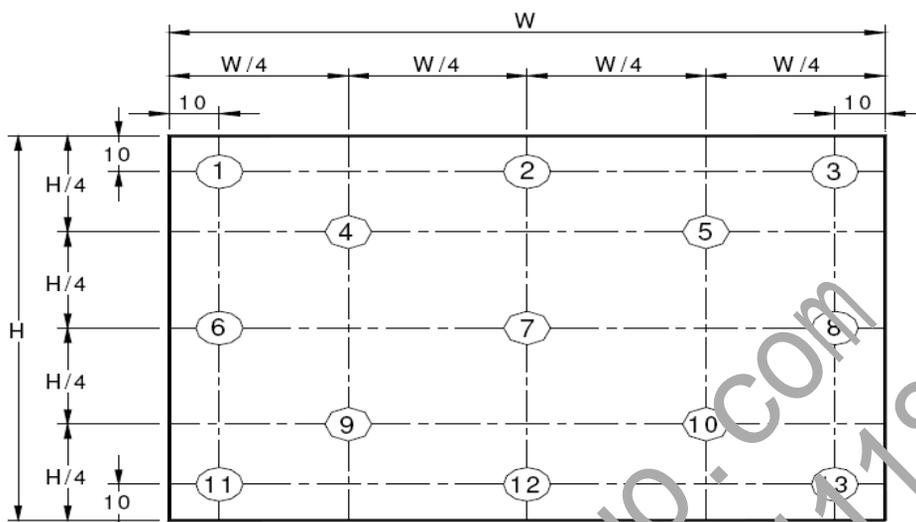

Figure 9. Uniformity Measurement Locations (13 points)
- The White luminance uniformity on LCD surface is then expressed as : $\Delta Y = \text{Minimum Luminance of 5(or 13) points} / \text{Maximum Luminance of 5(or 13) points.}$ (see Figure 8 and Figure 9).
The White luminance uniformity on LCD surface is then expressed as: ΔY_5 = Minimum Luminance of five points / Maximum Luminance of five points (see Figure 8), ΔY_{13} = Minimum Luminance of 13 points / Maximum Luminance of 13 points. (see Figure 9).